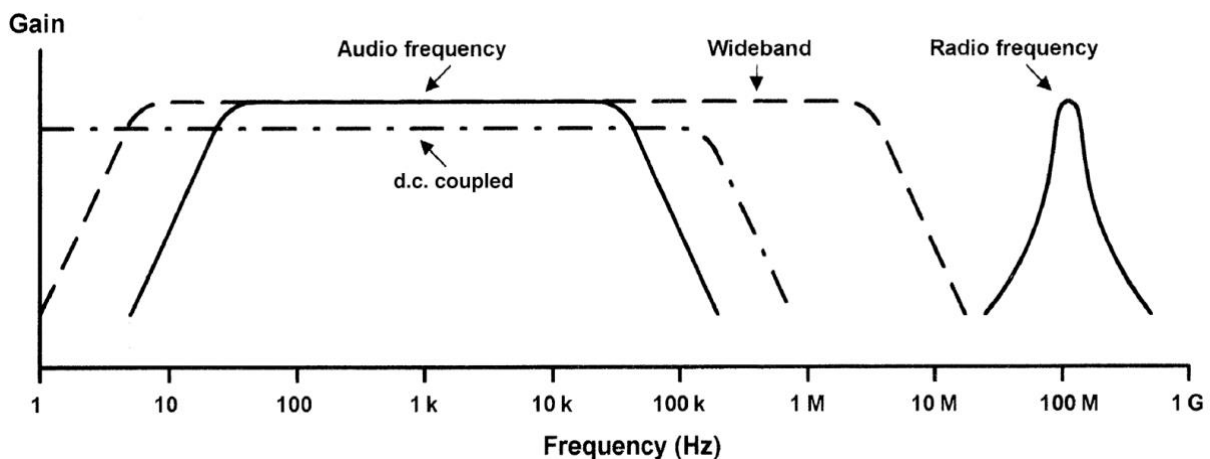

Figure 1.27 Frequency response and bandwidth (output power plotted against frequency)
- The frequency response characteristics for various types of amplifier are shown in Fig. 1.27.
- Signals can be coupled between the individual stages of a multi-stage amplifier using one of a number of different methods shown in Fig. 1.27.